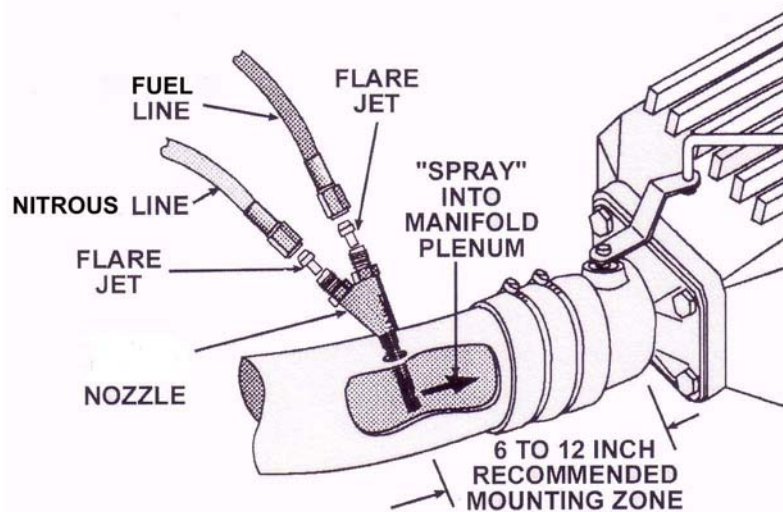

FIG. 5
**Note:** The recommended mounting location for the nozzle is in the air inlet duct, between the throttle body and the mass airflow sensor (in applications where a mass airflow sensor is used). In certain applications where the throttle body is an integrate part of the air cleaner housing, install the nozzle between the throttle body and the intake manifold. If possible, install the nozzle between 6 and 12 inches before the throttle body or any major turn in the air inlet duct. See figure 5.
- 2) Select the desired mounting location for the nozzle (5), taking into account the length of the nitrous and fuel supply hoses and the intended location of the solenoids. Take into account that the nozzle and lines must clear the hood so check for clearance before drilling.
- 1) Select the proper nitrous and fuel jets (15). Place the desired jets into the nozzle, making sure that the jets are inserted into the correct locations, as marked in figure 5 Check the jet cart for correct jet sizes.
- 2) Connect and tighten the blue fitting side of the 2 ft. 3AN hose (10) to the nozzle as shown in figure 5
- 3) Connect and tighten the red fitting side of the 2 ft. 3AN hose (10) to the nozzle as shown in figure 5